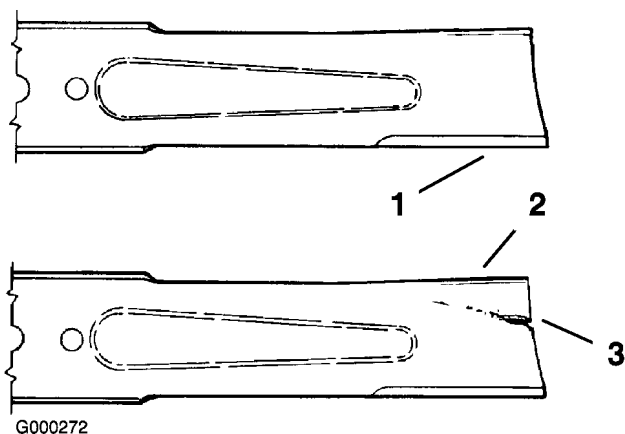

Figure 54
1. Inspect the cutting edges (Figure 54). If the edges are not sharp or have nicks, remove and sharpen the blades. Refer to Sharpening the Blades.
2. Inspect the blades, especially the curved area (Figure 54). If you notice any damage, wear, or a slot forming in this area (item 3 in Figure 54), immediately install a new blade.